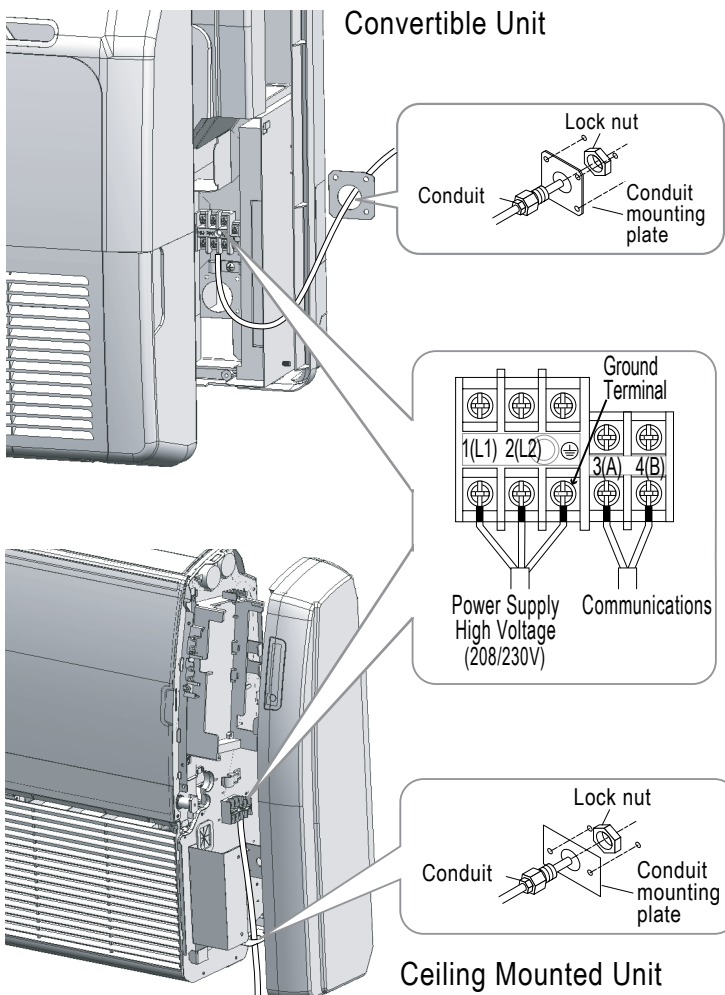

Figure 20: Input Power and Communications Connections
Keep line voltage power away from the communications terminals 3(A) and 4(B) (Figure 20). Line voltage power applied to the communications terminals will damage the indoor unit control board, requiring replacement.
10. Refer to Figure 20 for details of the terminal block wiring. Strip approximately half of an inch of insulation from each of the power wire conductors. Tightly crimp a spade connector to the Hot, Neutral and Ground Wires. Insert each spade connector under the appropriate terminal block screw and tighten.
The polarity of the communications cable connections is important. When connecting the communications cable conductors at each Multi V™ system component (Figure 20), be careful the conductor connected to the IDU(A) terminal on the outdoor unit is connected to the 3(A) terminals at each indoor unit. The conductor connected to the IDU(B) terminal on the outdoor unit must be connected to the 4(B) terminals at each indoor unit. Cross connecting between the A and B terminals will cause a communications error and the system will not operate correctly.